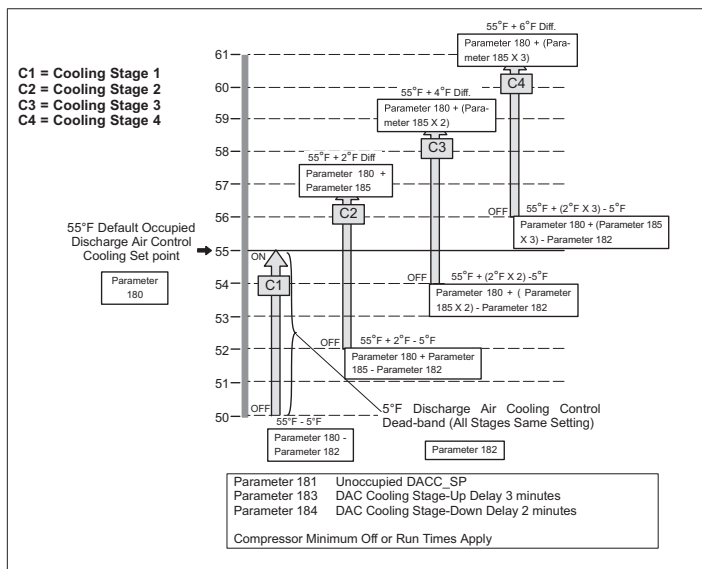

Figure 18. Discharge Air Control Cooling Stages - Default Values Shown
- Refer to "Figure 18. Discharge Air Control Cooling Stages - Default Values Shown" on page 50.